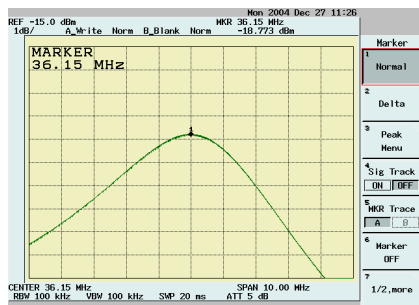

Fig. 3
- ☐ Calibrate **C23**, **L9** to tune the equalisation cell to the middle of the intermediate frequency (Fig.3) with **JP5** on and **JP3** and **JP4** off.